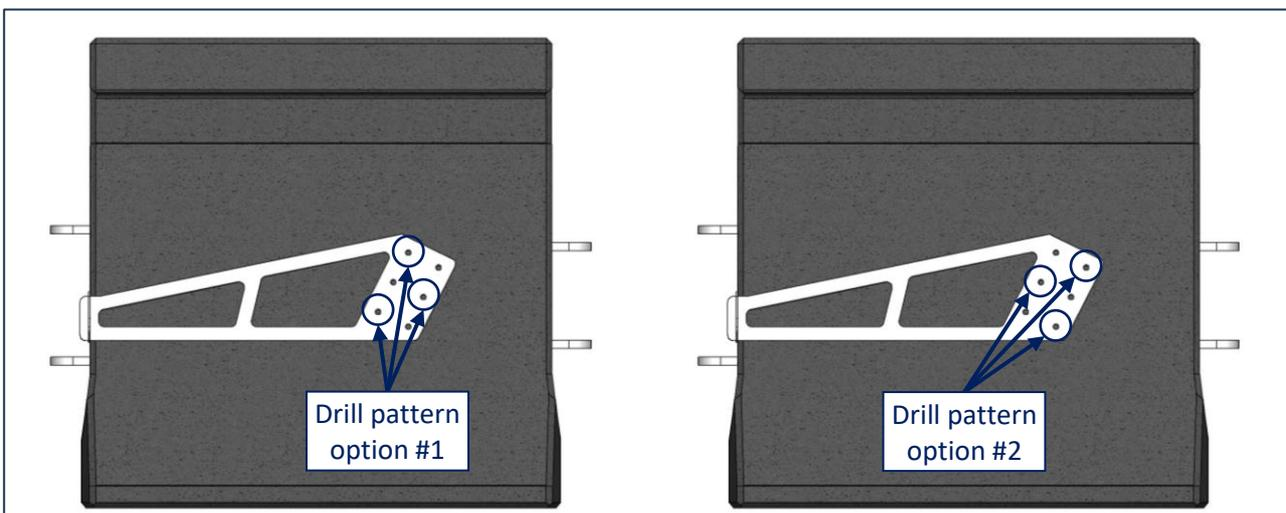

Figure 9: Anchor Hole Pattern Options
The transition template features six (6) anchor holes incorporating two (2) anchoring pattern options. The anchor holes may use either of the three (3) hole patterns as shown in Figure 9. This arrangement provides an alternative in the event reinforcement is encountered during drilling.